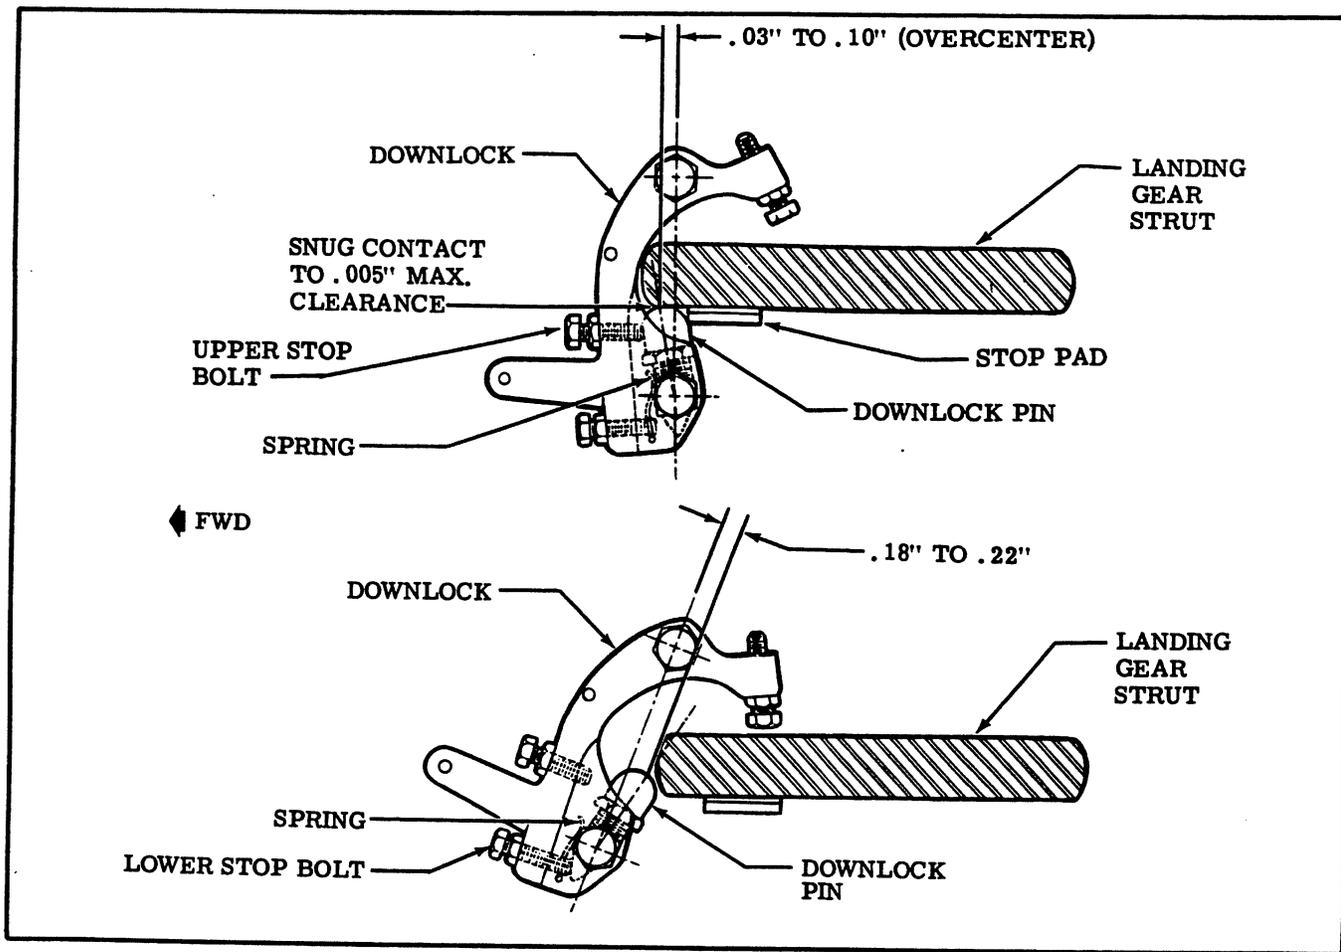

Figure 5-42. Rigging of Downlock
a. Check that downlock pin reaches the overcenter position shown in figure 5-42 (.03" to .10"). Adjust upper stop bolt as required to obtain this position.
b. Check that downlock pin reaches the retracted position shown in figure 5-42 (.18" to .22"). Adjust lower stop bolt as required to obtain this position.
c. Check over-all length of downlock pin as shown in figure 5-42 (snugly against strut to .005" maximum clearance), with hydraulic pressure on gear. Downlock pin assembly must be removed to change over-all length.